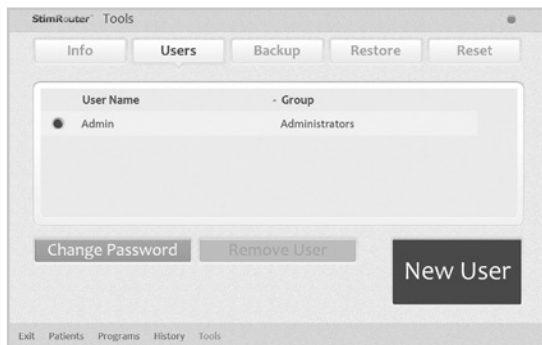

Figure 11-2: Adding a user/administrator
1. Press “Tools” on the Menu Bar, press the Users Tab and then press the “New User” button. See Figure 11-2.